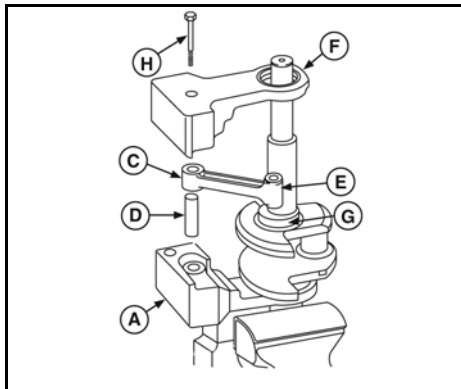

Figure 28
2. Slide magneto-side counterweight (A, Figure 28) on flywheel end of crankshaft.
4. Slip link (C) over dowel pin (D) with rounded edge (E) up. Fit dowel pin into magneto counterweight.
5. Slide PTO counterweight (F) on dowel pin and crankshaft eccentric (G).
6. Install and torque screw (H) to value listed in Section 12 - Engine Specifications.